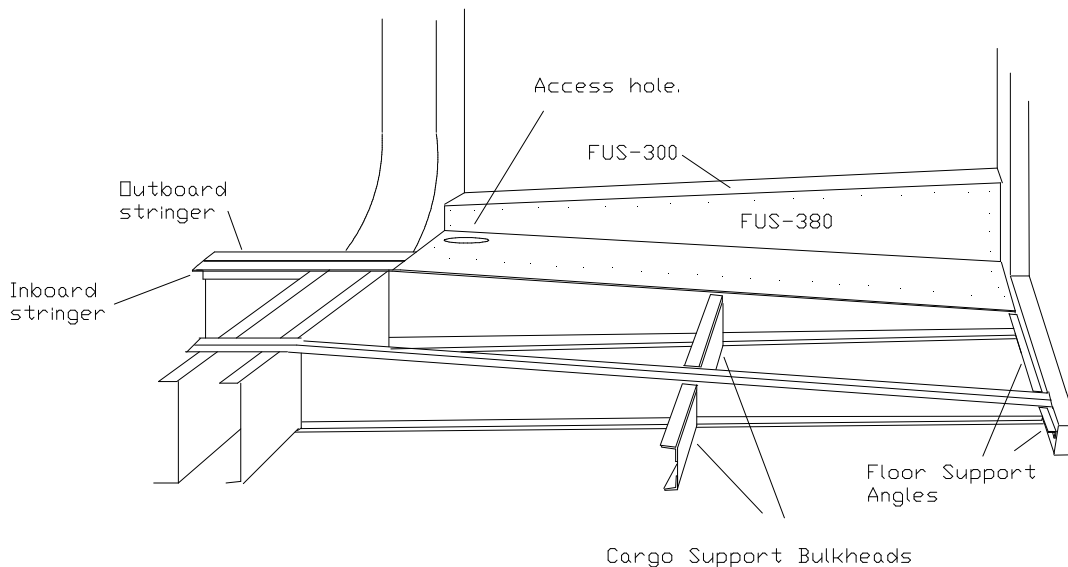

Fig. 9.6.9
- 14) Also fabricate a floor support angle (from ST0028 or RAWST0008) that goes across the Inner Cargo Door bulkhead at station “B C”. Keep them flush with the top of the floor stringers. Figure 9.6.9.